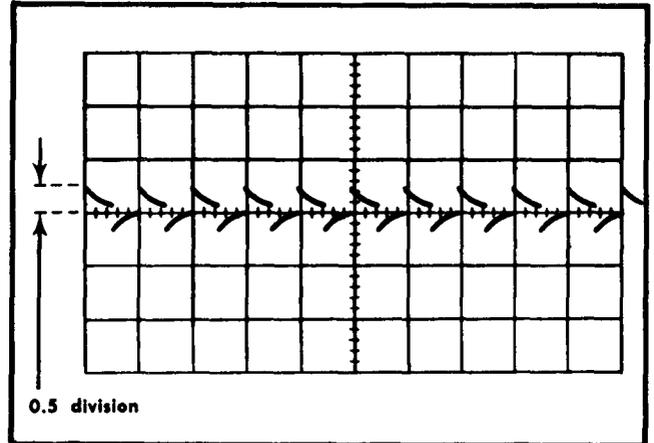

Fig. 5-32. Typical CRT display when checking calibrator current.
- e. CHECK-CRT display 0.5 division in amplitude (five milliamperes; see Fig. 5-32).